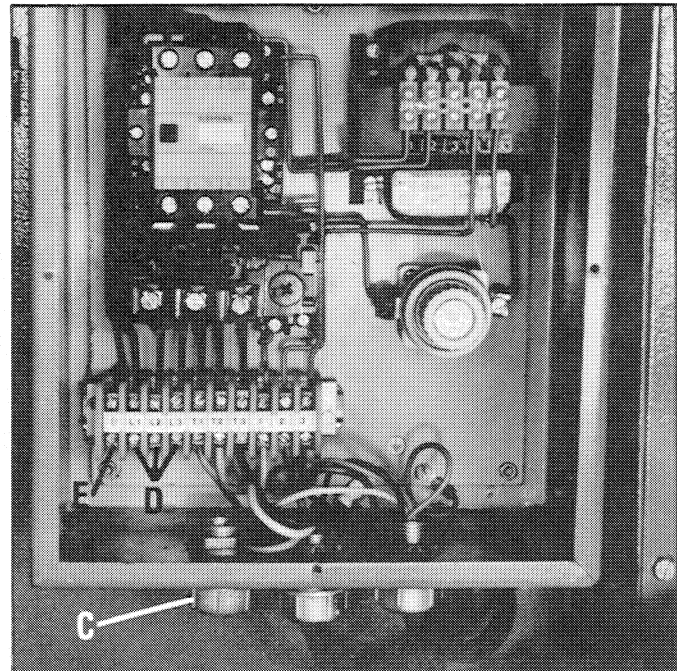

Fig. 5
2. Insert power line through hole (C) Fig. 5, and connect the three power lines to terminals L1, L2 and L3, shown at (D) and the green ground wire to the ground terminal (E). **IMPORTANT:** If after the machine is in operation the blade revolves in the wrong rotation, simply interchange any two of the three power lines that are connected to terminals (D) Fig. 5.